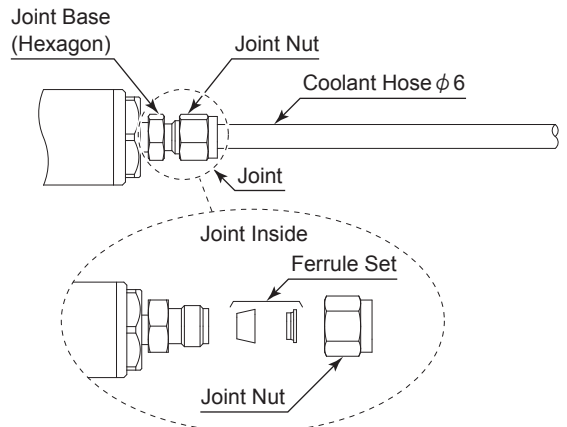

Fig. 19
- (2) Secure an adjustable wrench or 14mm open-end wrench (Wrenches not included ) to the base (hexagon part) of the Joint, then tighten the Joint Nut securely by using an adjustable wrench or 14mm open-end wrench (Fig .19).